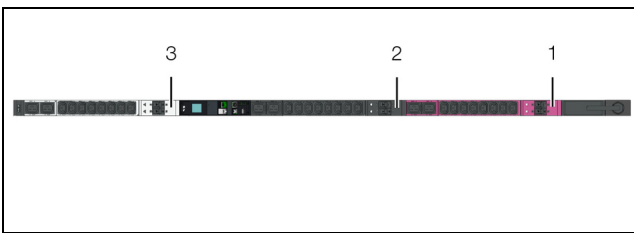

Fig. 66: Colour coding of individual phases and slots
The assignment of the slots to the individual phases is marked with different colours on the front of the PDU (fig. 66).
- Phase 1 (L1): pink (fig. 66, item 1)
- Phase 2 (L2): black (fig. 66, item. 2)
- Phase 3 (L3): white (fig. 66, item 3)